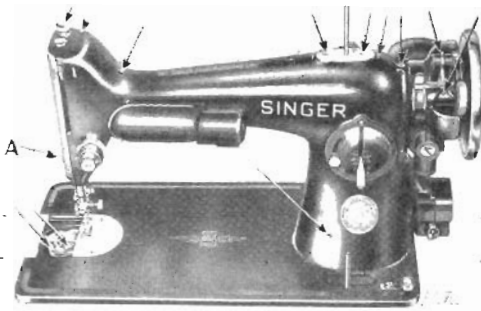
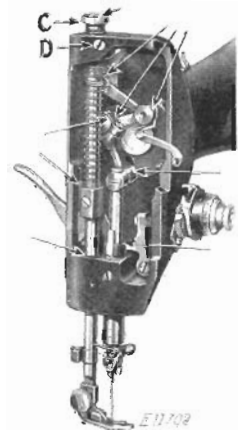

FIG. 63. FRONT VIEW, SHOWING OILING POINTS
FIG. 64. END VIEW,
be applied at each of the places indicated by arrows in Figs. 63 to 67, inclusive. One drop of oil at each oiling point is sufficient. Oil holes are provided for bearings which can not be directly reached.
Remove the thumb screw (A, Fig. 63) near the lower end of the face plate, and loosen the screw (D, Fig. 64) near the upper end of the face plate, then raise the face plate and slip it off over the head of the screw (D). Apply one drop of oil at each of the places indicated by arrows in Fig. 64.